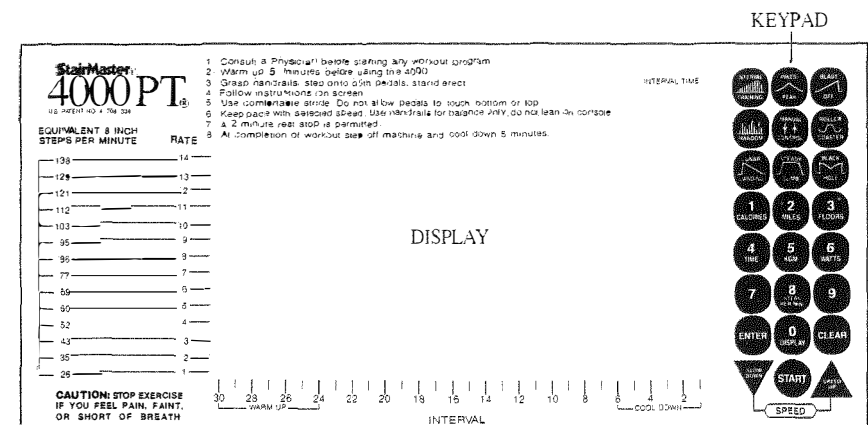

Figure 1. The StairMaster 4000 PT Console
2. THE DATA ENTRY MODE. In the Data Entry mode, the user must furnish information the computer needs to control the speed of the workout and to accurately calculate the physiological and performance feedback. This mode is entered only from the Attract mode by pressing START or by stepping on one of the pedal/steps. The first prompt on the screen is ENTER WEIGHT. To respond, simply press the appropriate numbers on the keypad and then press ENTER. The range for weight is any number from 1 to 999 pounds (or, for the metric console, 1 to 999 kilograms). Your weight is used to calculate the number of calories you used while exercising. The next prompt is SELECT PROGRAM. You have the choice of exercise programs in the top three rows of the keypad (see Figure 1). The outlines on the keys correspond to the relative profile of the particular program. If you select MANUAL CONTROL or one of the custom programs, the computer has completed the data entry. If you have selected any of the other eight preprogrammed workouts, the console will prompt with ENTER LEVEL and wait for you to enter a difficulty level between 1 and 10, with 1 being the lowest workout intensity. If you have the Revision 2.1 or 2.2 software and you have selected MANUAL CONTROL or one of the preprogrammed workouts, the computer will ask for the length of your workout in minutes before completing the data entry.